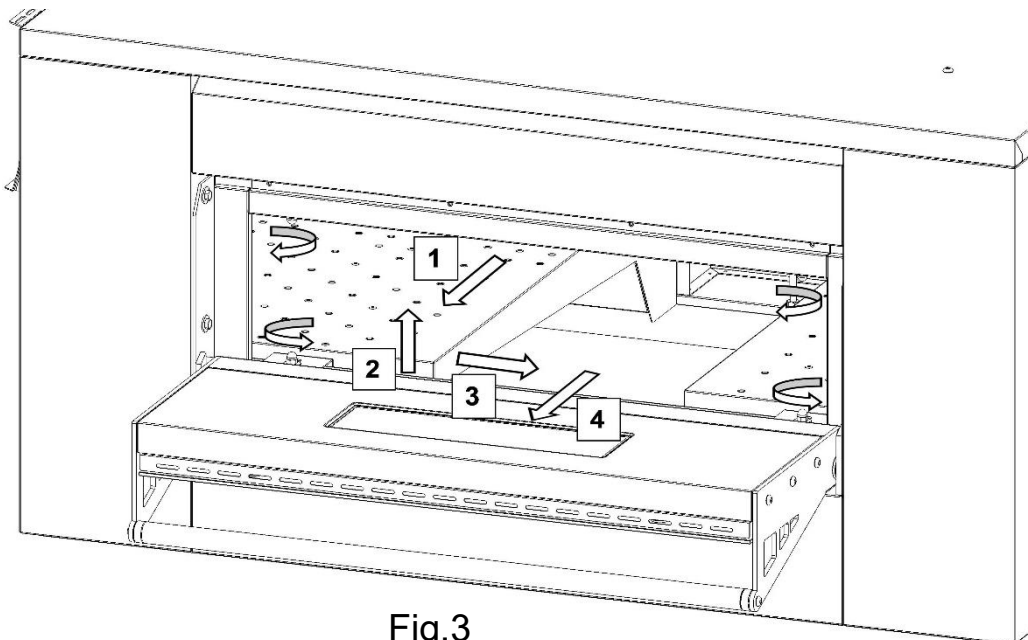

Fig.3
7.Open the side hatch and unbolt the nuts using a number 10 spanner (Fig.3). Only for 06/40V model, remove the lateral door and unscrew the fixing bolts with a number 10 spanner.
8.Making sure to wear a pair of heavy duty gloves to avoid getting scratched from sharp metal corners and extract the diffusers as shown in Fig.3 Following the sequence 1-2-3-4.